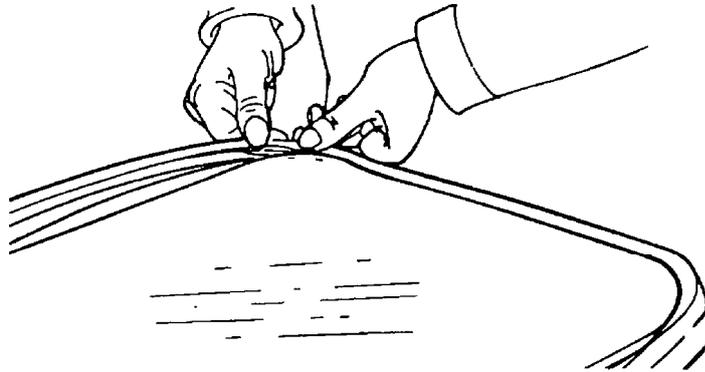

Figure 101 Windscreen Rubber Seal Installation
- e. Install the windscreen rubber on the glass with the inside face of the rubber uppermost (Figure 101).